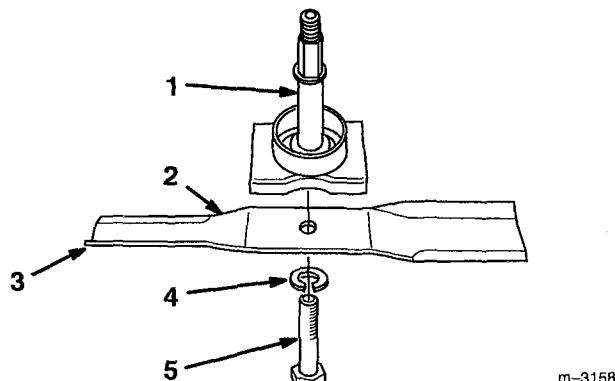
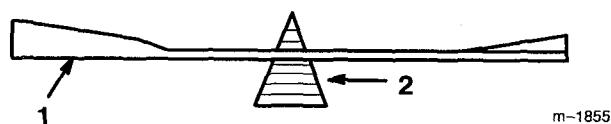

Figure 10
Figure 12
Hold the blade end using a rag or thickly-padded glove. Remove the blade bolt, lock washer and blade from the spindle shaft (Fig. 10).
2. Check the balance of the blade by putting it on a blade balancer (Fig. 12). If the blade stays in a horizontal position, the blade is balanced and can be used. If the blade is not balanced, file some metal off the end of the sail area only (Fig. 10). Repeat this procedure until the blade is balanced.
1. Install the blade onto the spindle shaft (Fig. 10).
2. Install the lock washer and blade bolt (Fig. 10). Torque the blade bolt to 85–110 ft-lb (115–140 N·m).